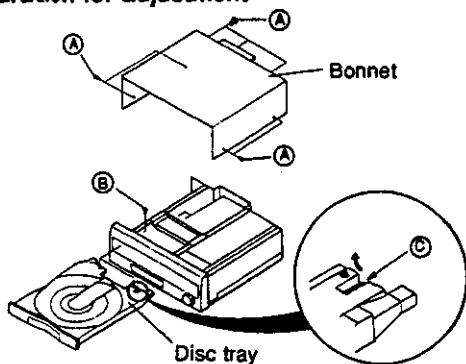

Fig. 1
1. Remove the 7 screws ④ that stabilize the bonnet and take off the bonnet. (Fig. 1)
2. Remove the 2 tray stopper screws ⑤ and press the OPEN/CLOSE button to put the tray unit in the open position. (Fig. 1)
3. While pushing the hook on the right rear of the disc tray ⑥ to the left, pull out the tray unit. (Fig. 1)